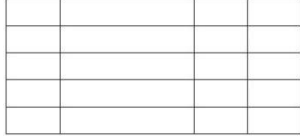

Fig 18
- 4. Enter to finish moving. (Fig18)